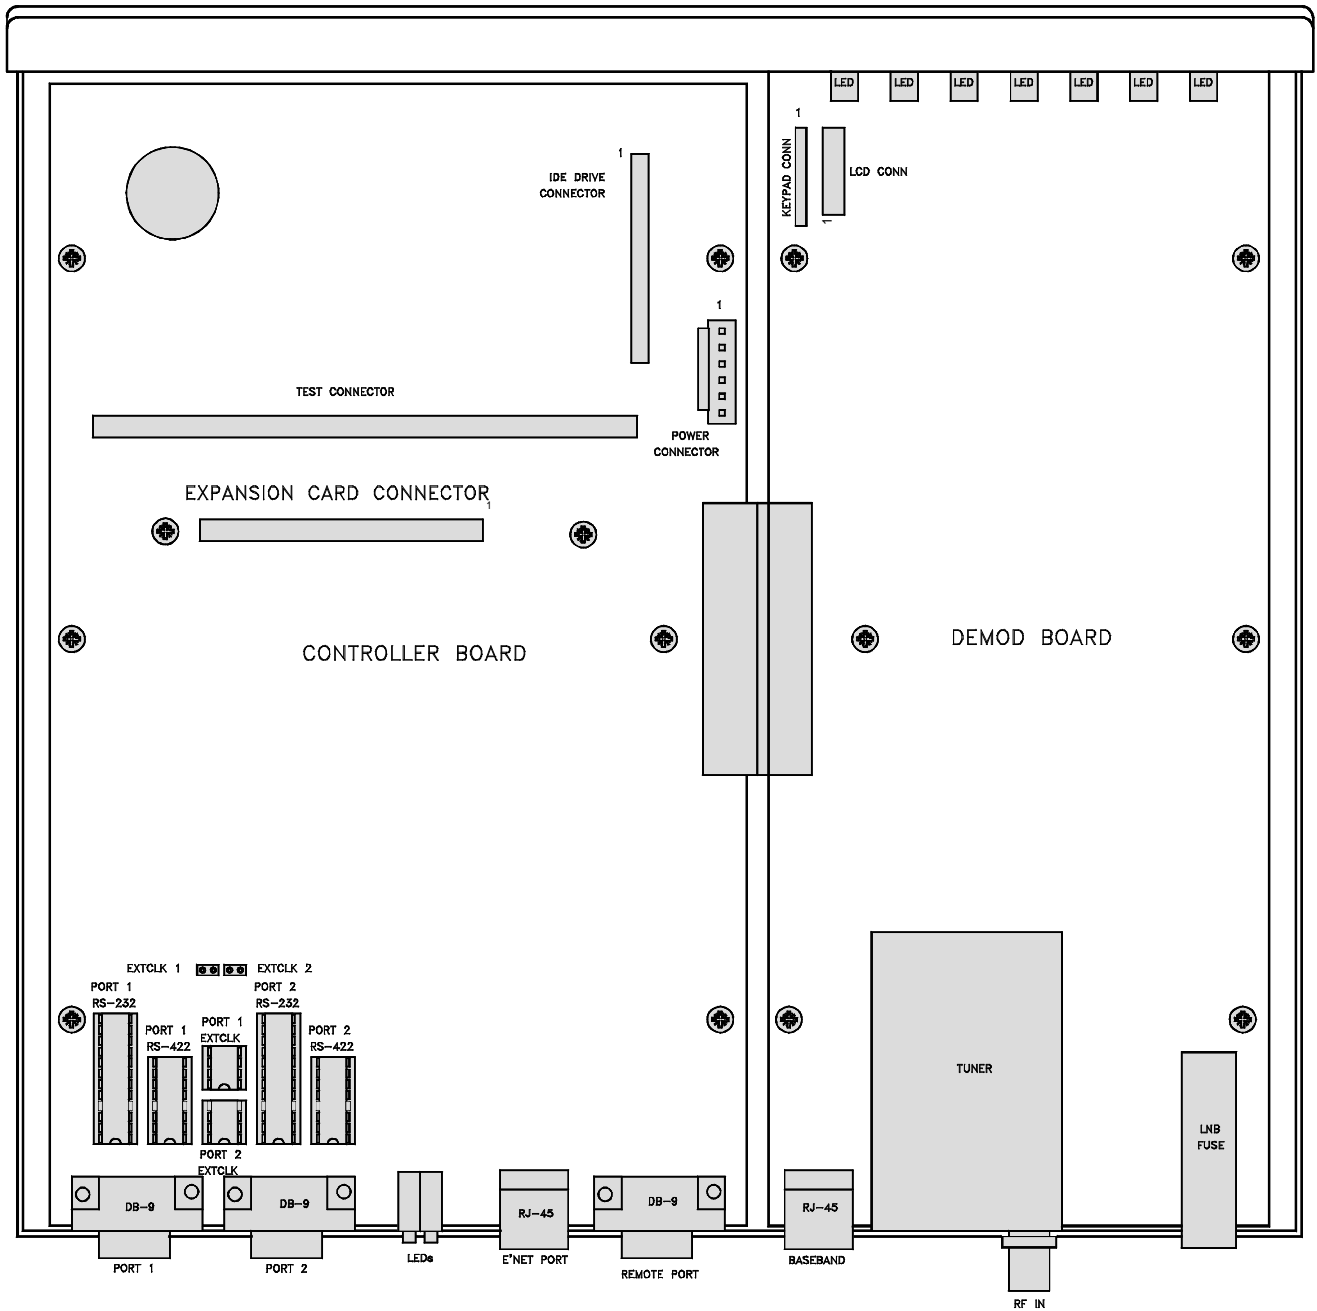

Figure 2-3. Simplified Drawing of Circuit Boards, Showing Location of Components
Interface circuits may be installed in the field. Figure 2-3 shows the location of the drivers. The DCR-974 circuit board is also marked to show the location of the drivers.
6. Find the proper location by referring to Figure 2-3 and to the circuit board itself. *Make certain that you orient the IC correctly before you attempt to insert the pins into the socket.* The notch on the IC must align with the mark on the circuit board. Make certain that the pins are straight. Use a pin-straightener if necessary.
Refer to Figure 2-3. To install a circuit card, remove the receiver cover as previously described, then proceed as follows: